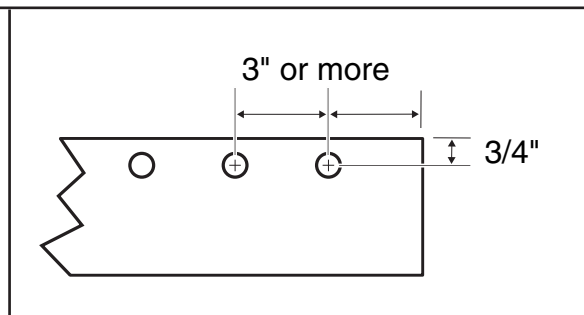

Figure 2. Drilled hole dimensions.
2. Drill as many $\frac{7}{16}$ in. holes as desired along the length of the board, at least 3 in. apart and $\frac{3}{4}$ in. on center from the top of the board (see **Figure 2**).